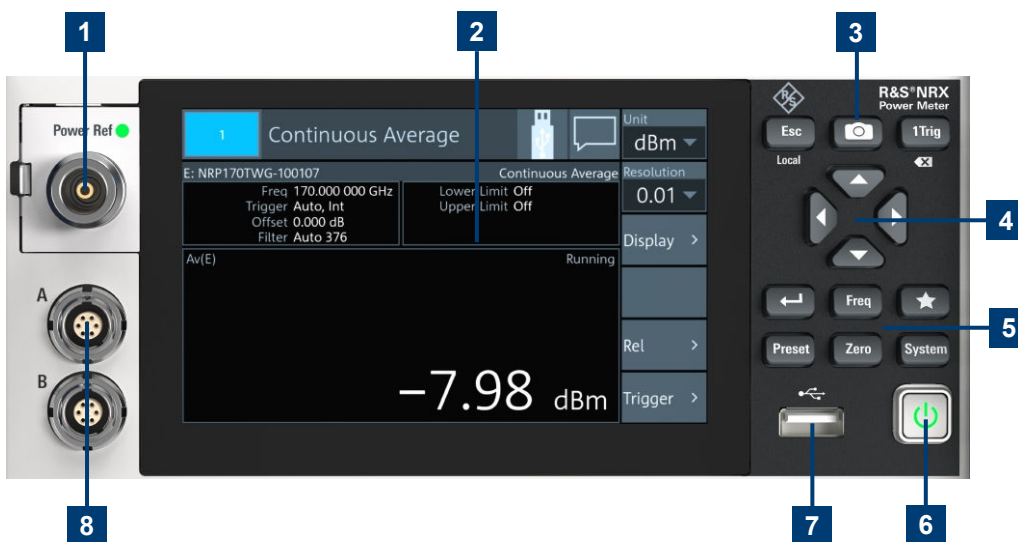

Figure 5-1: Front panel of the R&S NRX
See (8) in Figure 5-1.
See (1) in Figure 5-1.
See (2) in Figure 5-1.
See (3, 5) in Figure 5-1.
See (4) in Figure 5-1.
See (6) in Figure 5-1.
See (7) in Figure 5-1.